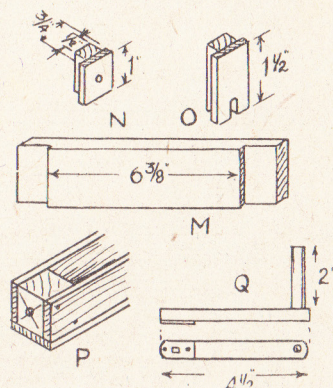

Fig. 3
The handle (Q) in Fig. 3, is a length of $\frac{1}{4}$ in. by $\frac{1}{4}$ in. wood, cut to the measurement given. In one end, that which goes over the roller spindle, cut a square hole. The end of the spindle should be filed roughly square to tightly fit this.